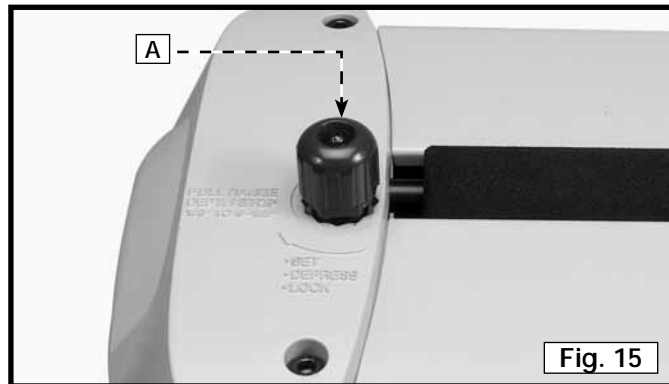

Fig. 15
1. You can use the depth stop (A) Fig. 15 to set the cutterhead to a pre-determined thickness. The stop can be set at any depth from 1/8" (3.2 mm) to 6-1/2" (165 mm) for repetitive planing.
3. Rotate the depth stop knob (A) Fig. 15 clockwise, while applying light downward pressure, until it stops.